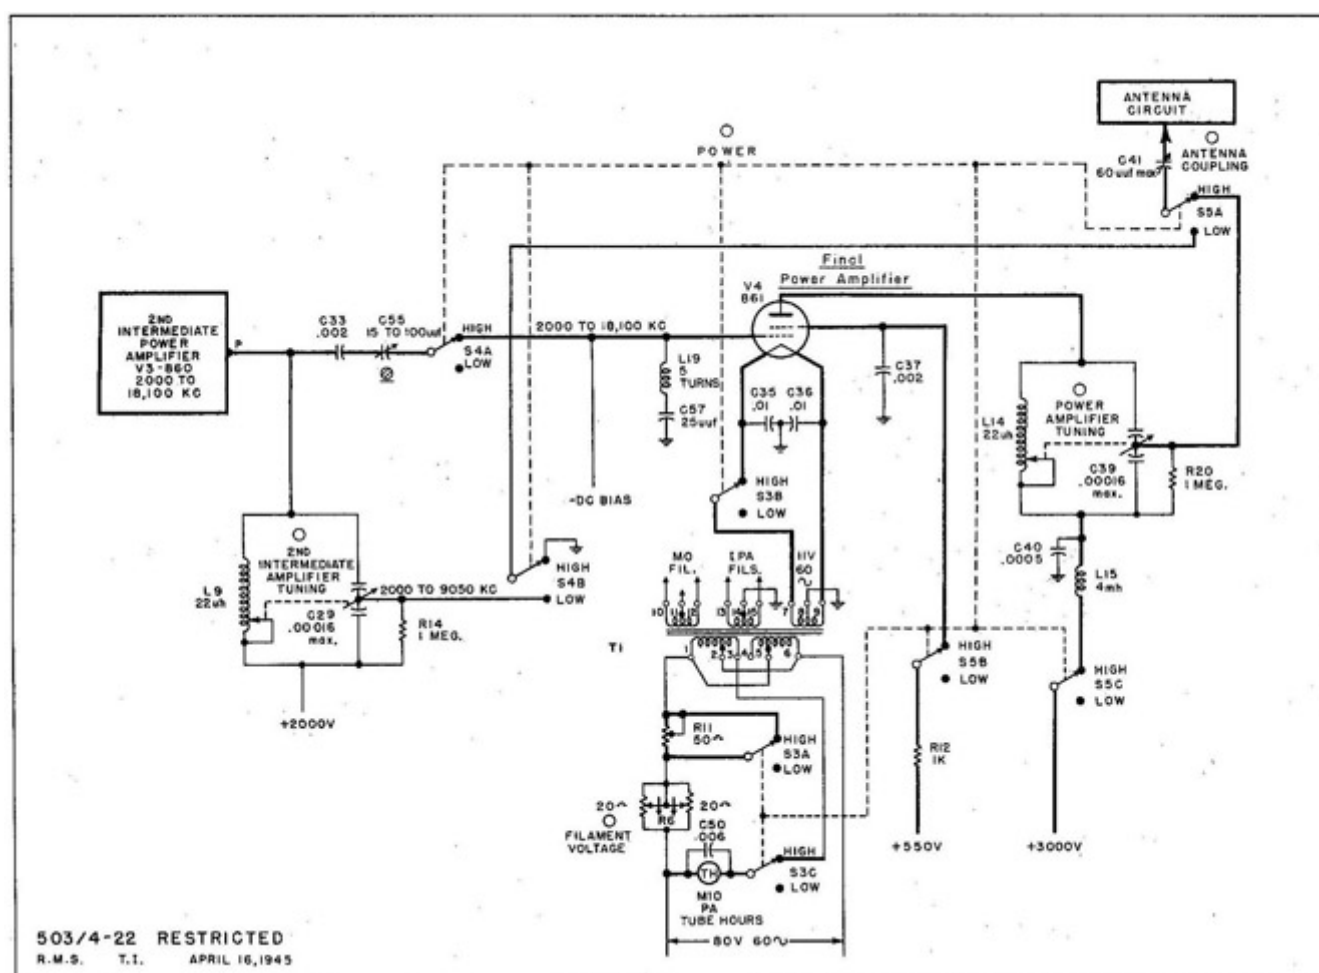

Fig. 22 TBK-13 Transmitter (DC Model) High 7 Low POWER Control
2. **GENERAL CIRCUIT CONDITIONS:** Parts concerned only with the 2.0 to 4.0 mc range have been omitted from Fig. 22.